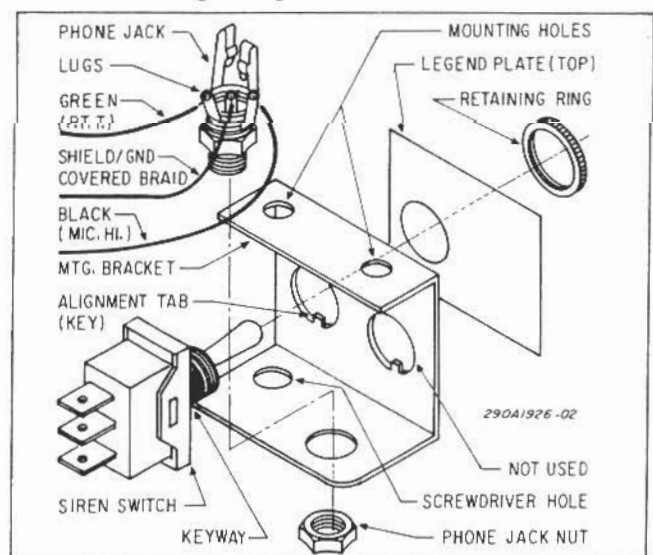

Figure 3-2. Control Switch Installation.
E. Remove the retaining nut from the single pole-double throw (SPDT), center-off switch. There are three lugs on the SPDT switch. Align the keyway on the switch with the alignment tab in the hole as shown in figure 3-2. Secure the switch to the mounting bracket with the retaining ring.
F. Install the phone jack in the large hole in the bottom bend of the mounting bracket, as shown in figure 3-2. Position the phone jack so that the three lugs are toward the rear of the bracket (see figure 3-2). Use the supplied nut to secure the phone jack to the mounting bracket.
2. Locate the green and black wires and the covered braid (shield/ground) in the power control cable. Connect the three leads to the phone jack as shown in figure 3-2. The function of each wire is shown below: